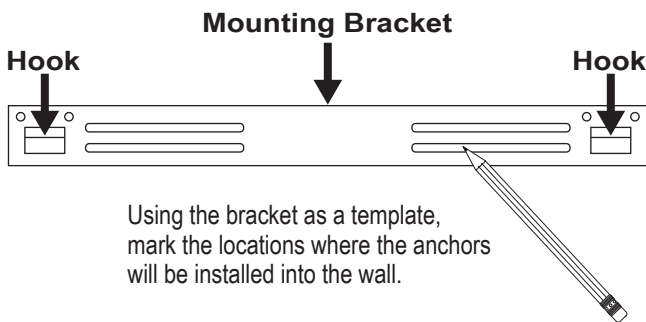

Figure 3
- Ensuring the mounting bracket is level and the hooks are facing upward, use a pencil to mark where the eight screws will be installed. This bracket **MUST** have the hooks facing upward, and be level. [Figure 3]